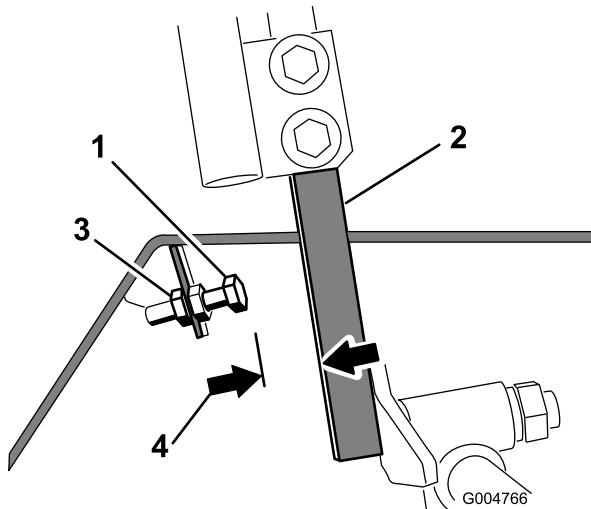

Figure 73
- Loosen the jam nut on the stop bolt for one of the control levers (Figure 73).